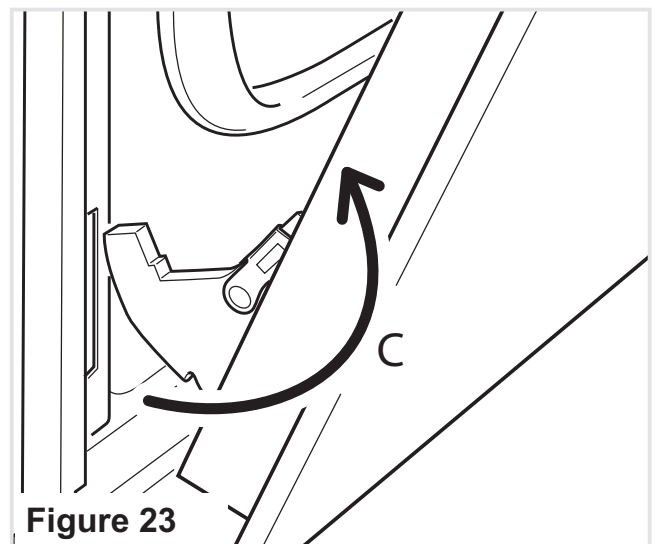

Figure 23
- Withdraw the hinge hooks from their location following arrow “C” (fig. 23).